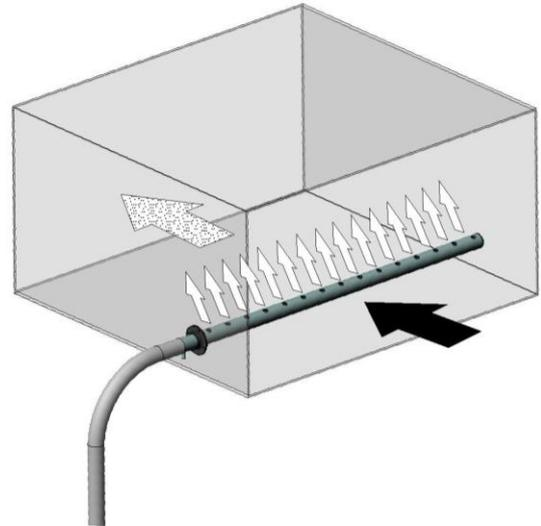

Fig. 1
**NB:** The maximum airflow pressure in the air duct must not exceed 1,200Pa (fig. 1).